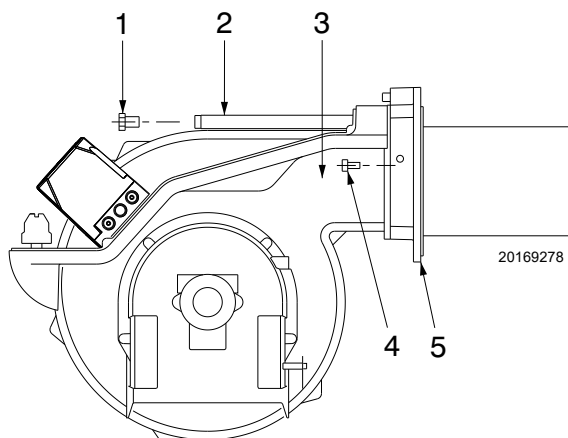

Fig. 16
Finally remount the burner 3)(Fig. 16) on the slide bars 2) and slide it up to the flange 5), **keeping it slightly raised to prevent the flame stability disk from pressing against the blast tube.**
- open the burner on the slide bars 2)(Fig. 16) as shown in Fig. 12 on page 17.